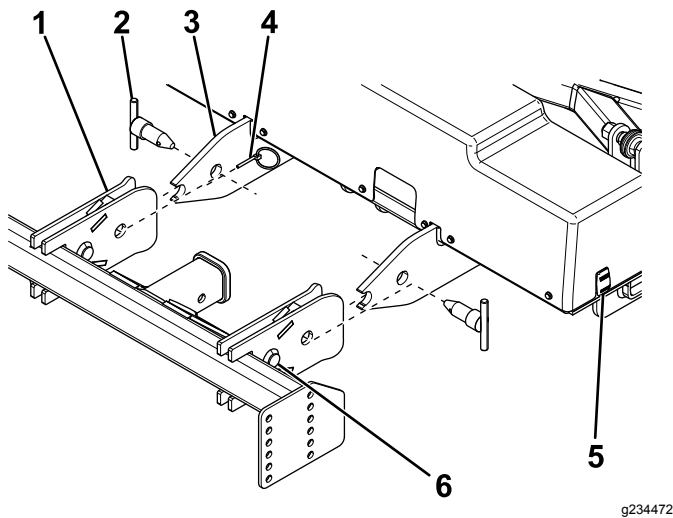

Figure 22
4. Use the coupler switch to raise or lower the plow to the desired height, then slowly drive backward until the attachment arms contact the undercarriage pin (Figure 22).
5. Slide the attachment pins through the holes in the attachment arms and undercarriage and secure them with a linchpin (Figure 22).